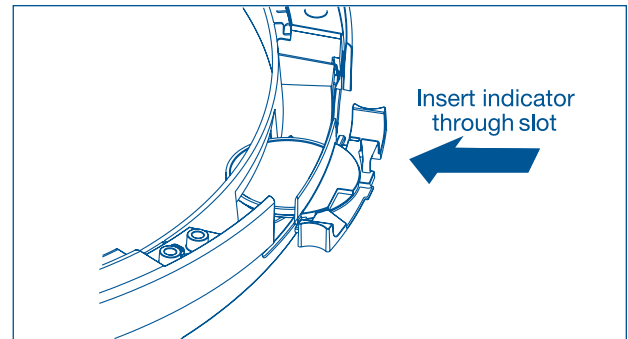

Figure 2-30.
2. Grasp the indicator between finger and thumb and slide it through the opening. (See Figure 2-30)